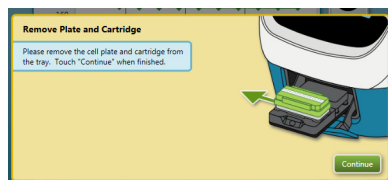

Figure 11. Remove plate prompt
- 6 Once the assay has finished, the XFp Analyzer prompts the user to eject the cartridge and remove the cell plate. See **Figure 11**.